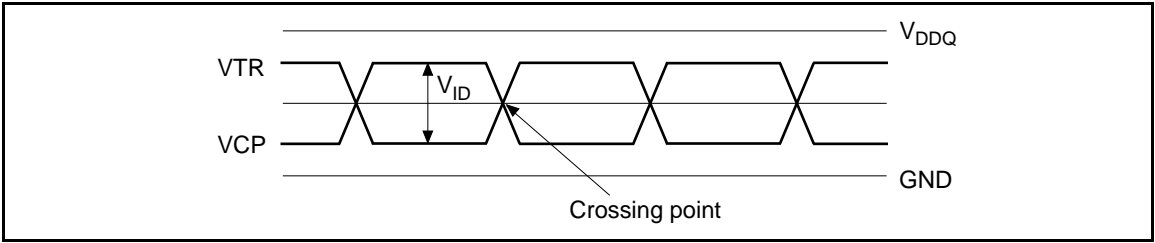

Figure 1-1 Differential input levels
- 3.Differential cross point voltage is expected to track variations of V_{DDQ} and is the voltage at which the differential signals must be crossing. (See figure1-1)